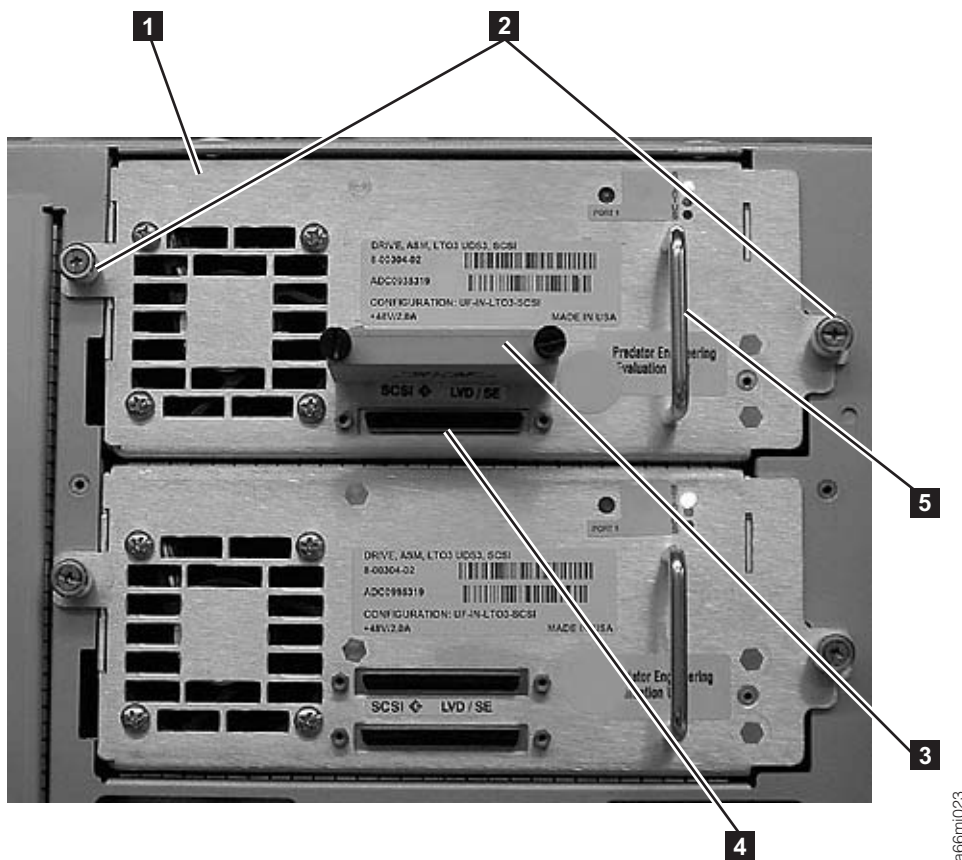

Figure 4-21. Tape Drive (detail)
2. Grasp the handle (**5** in Figure 4-21) and slowly slide the drive sled into the drive slot, while supporting the drive sled from underneath.
3. Tighten the two thumb screws (**2** in Figure 4-21) that hold the drive sled in place by turning them clockwise.